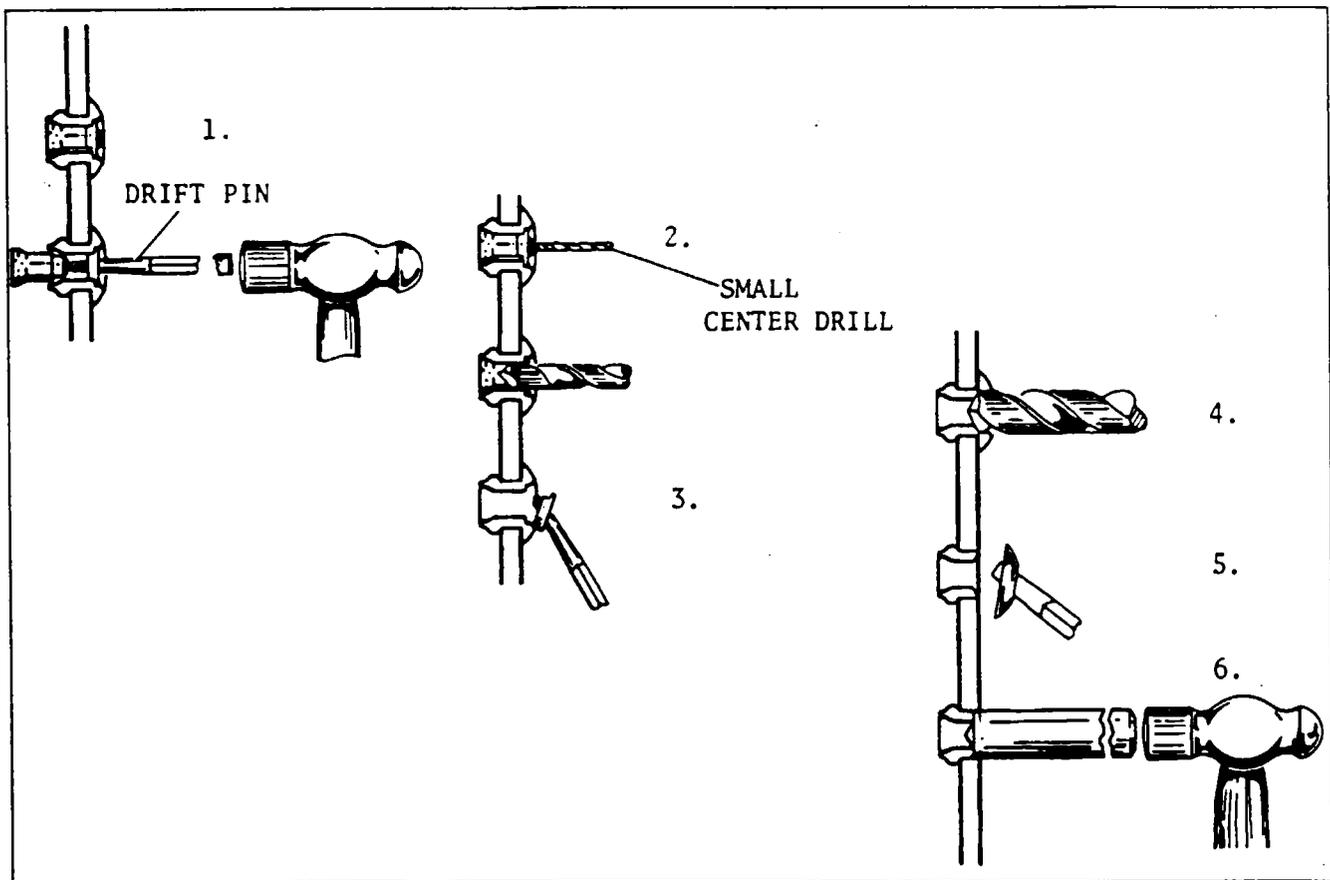

Figure 20-3. Cherrylock Rivet Removal
**CHERRYLOCK RIVETS, REMOVAL.** (Refer to Figure 20-3.)